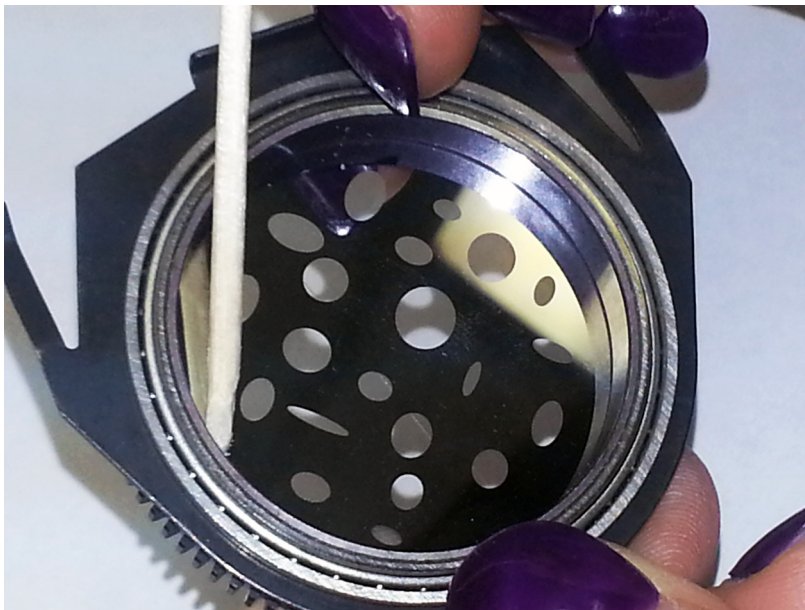

Figure 5: Removing Excess Glue
Step 6. Allow RTV to dry at least four (4) hours.
Step 7. Using wooden end of a Q-Tip, remove excess glue from glass as shown in **Figure 5**.